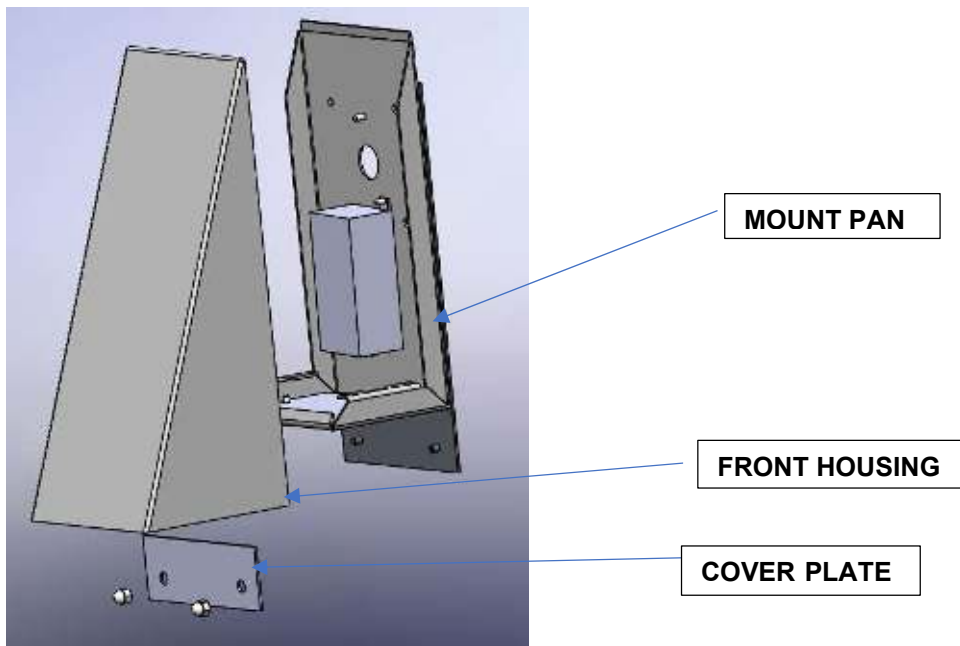

FIGURE 1.
2. Remove front housing in Figure 1 by removing two nuts and the cover plate from the front of the fixture. Pull the housing out to just past the studs then slide straight up to unhook the top and finally straight out to remove. Save all parts for reinstalling the Housing.